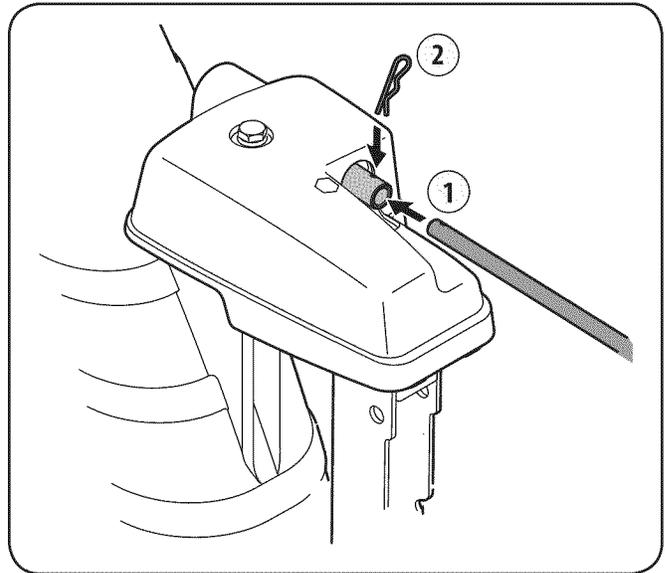

Figure 3-16
- Remove the hairpin clip from the rear of the chute control assembly. See Fig 3-16.
- Secure the chute directional control rod to the chute control assembly with the hairpin clip removed earlier. See Fig 3-16.